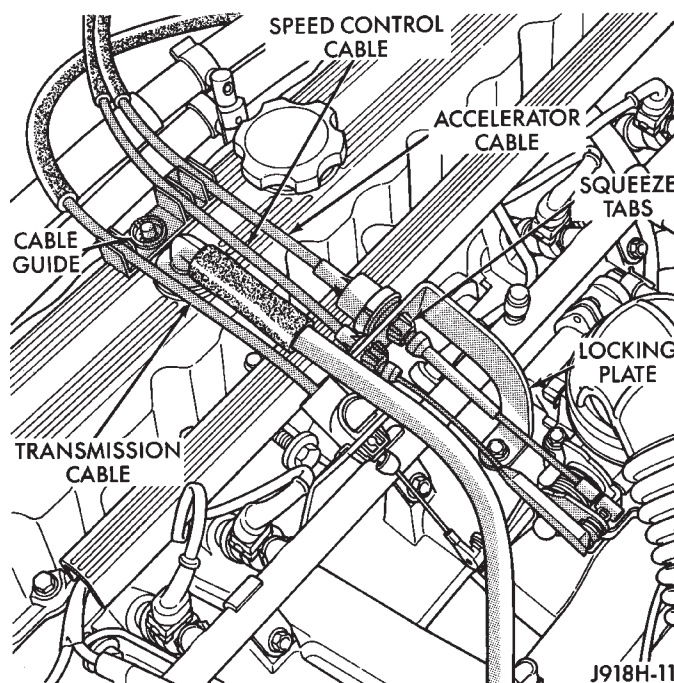

Fig. 3 Remove/Install Speed Control Cable to Locking Plate
- (2) Squeeze tabs on speed control cable and push out of locking plate (Fig. 3).
- (3) Pull cable out of cable guide.
- (4) Remove 2 nuts, 2 pushnuts, and cable housing from the servo.
- (5) Release the cable clip from the servo cable and remove the servo cable.
- (6) To install, reverse the removal procedure.